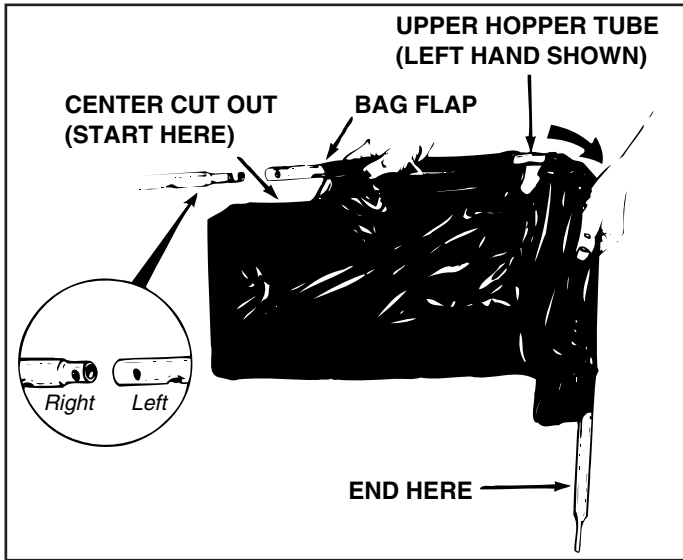

FIGURE 7
1. Insert the left hand upper hopper tube through the stitched flaps of the hopper bag, **starting at the center cut out** in the top of the bag. See figures 7, 8 and 9. Repeat for the right hand upper hopper tube.